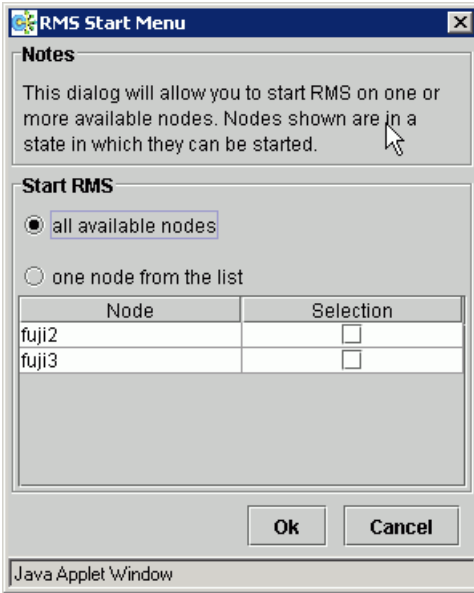

Figure 98: RMS Start Menu for all nodes
2. The *RMS Start Menu* window opens. To start RMS on all nodes, click the *all available nodes* radio button and then click *OK* (Figure 98).